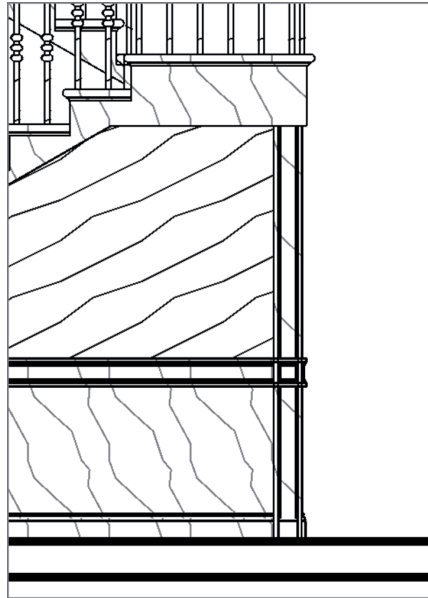

FIGURE BC1.18: Placing the sweep on the corner
11. Place a vertical rail in the right corner, as shown in Figure BC1.18.